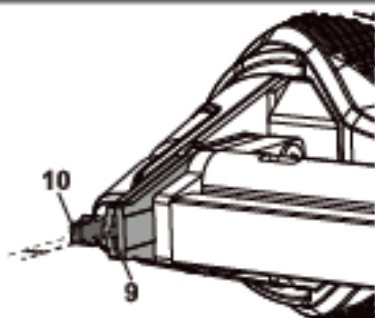

Fig. 9
NOTE: There is a gap between the safety yoke (10) and the nailer head (9). Make several trials to nail at your desired position (Fig. 9).